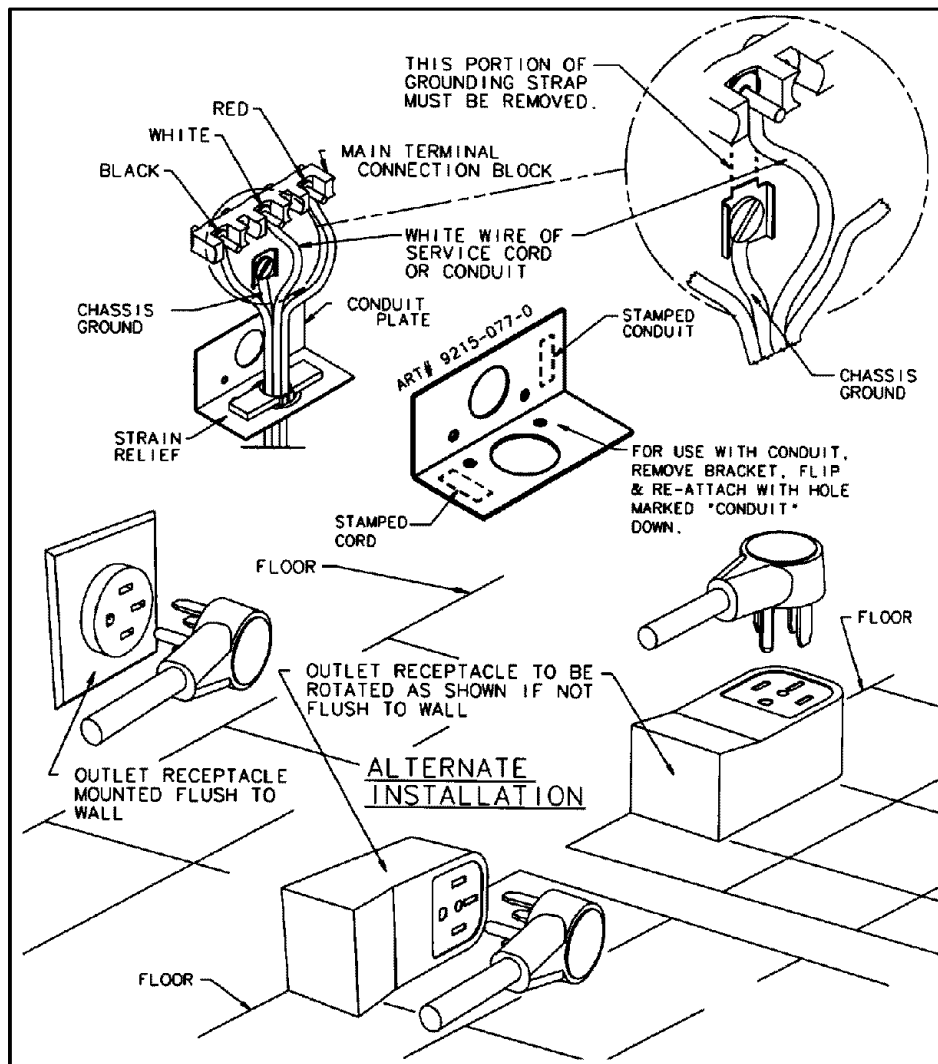

FIGURE 8
1. The copper ground strap connected between the neutral (middle) post of the main terminal block and the chassis **MUST** be cut off as shown in figure 8. Save the green ground screw to attach the ground from the 4 wire cord. Only a 4 wire cord or conduit should be used.
Disconnect range from power. Remove the access cover on back of range and remove the 3-wire service cord from the main terminal block. Follow instructions as outlined in figure 8 to connect the 4-wire service cord.